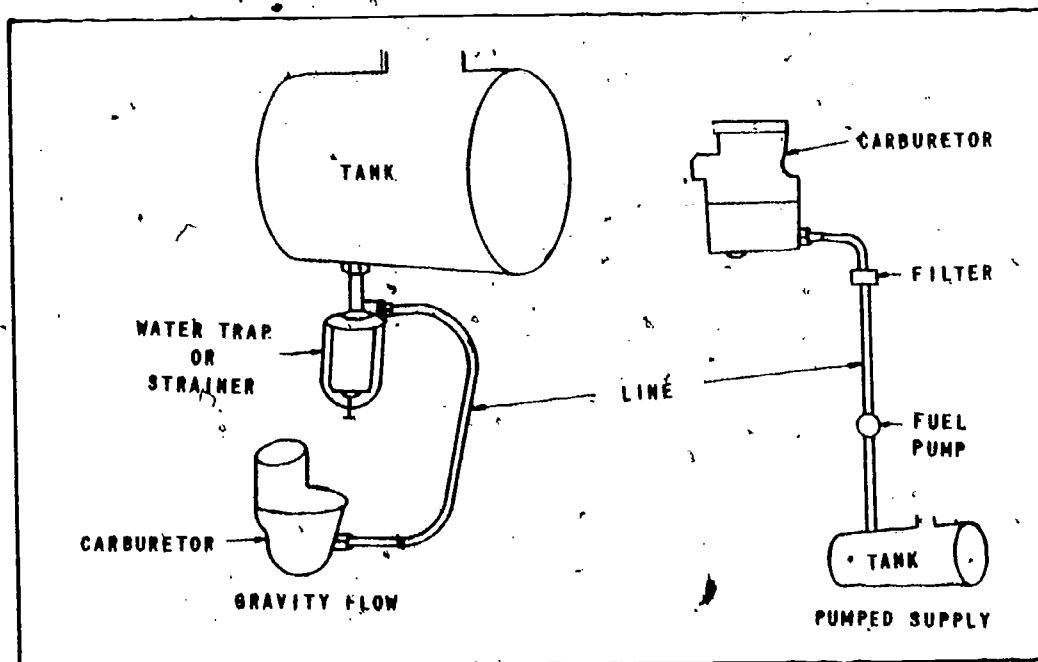

Fig 2-10. Schematic of the gasoline fuel systems.
- a. **Fuel system (fig 2-10).** In the gasoline engine, the fuel is mixed with the air before it enters the combustion chamber.
- (1) **Fuel tank and lines.** A tank made of a corrosion-resistant metal is mounted on the engine or the vehicle. The tank contains baffle plates to prevent excessive sloshing of the gasoline. Some fuel tanks are equipped with a fuel gage to indicate the amount of fuel in the tank at any given time. Fuel is carried from the tank to the carburetor through metal tubes. In areas where vibration would damage metal tubing, a flexible hose is used.
- (2) **Fuel filters and strainers.** An engine may be equipped with a fuel strainer or a fuel filter or with both. The fuel strainer, when used, is normally installed between the fuel tank and the fuel pump. A fuel filter is usually installed between the fuel pump and the carburetor (fig 2-10).